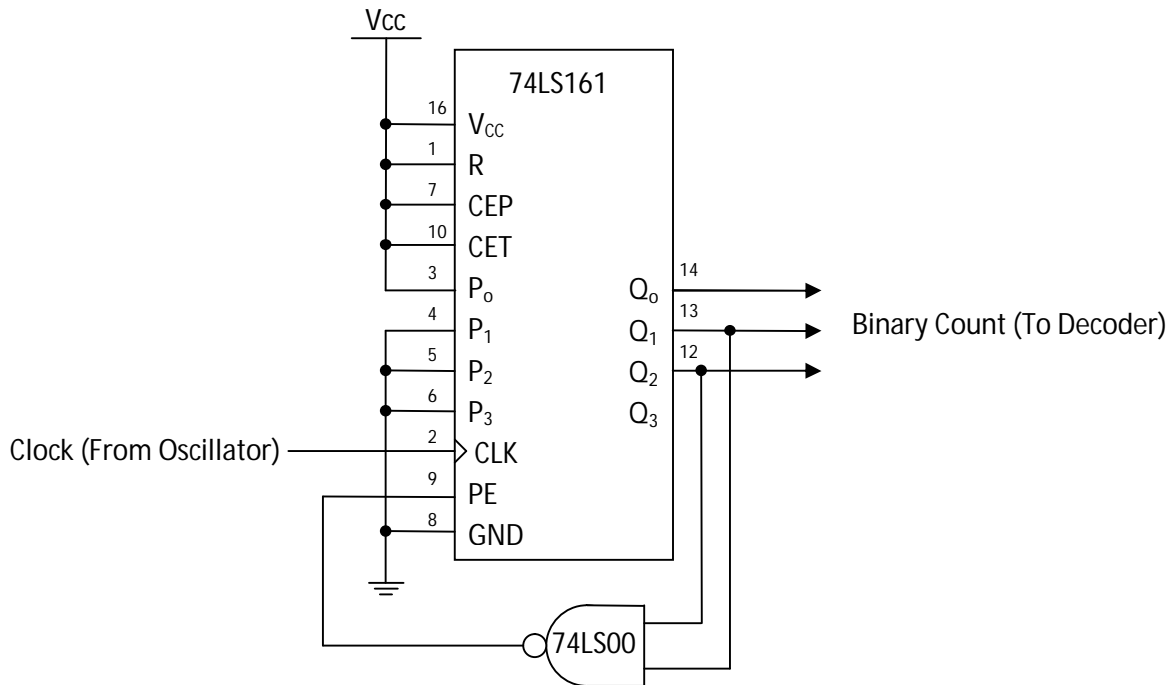

Figure 5 – Modulo 6 Counter
We can buy devices that count in binary (they are called, unimaginatively, binary counters). One such device is the 74LS161. This counter has 4 outputs, Q_3 , Q_2 , Q_1 and Q_0 that represent a binary number. On each rising edge of the clock, the count is cleared (if R is low), loaded to a preset value (if PE is low), or incremented. Counting up to 6 is easy because that is what the counter is designed to do, but to make it restart at 1 instead of counting to 7 we'll need to add circuitry. Figure 5 shows one way to make the counter count from 1 to 6 then repeat. When the counter reaches 6 (binary 0110), Q_2 and Q_1 are high (and Q_0 is low), so the NAND gate drives PE low. Consequently, on the next clock, the counter is loaded with 0001 (because P_3 , P_2 and P_1 are low while P_0 is high) and the cycle repeats. CEP and CET are count enables that must be tied high (to V_{cc}). Reset (R) should also be tied high so the counter is never reset. You will study counters in more detail when you get to EE2700.